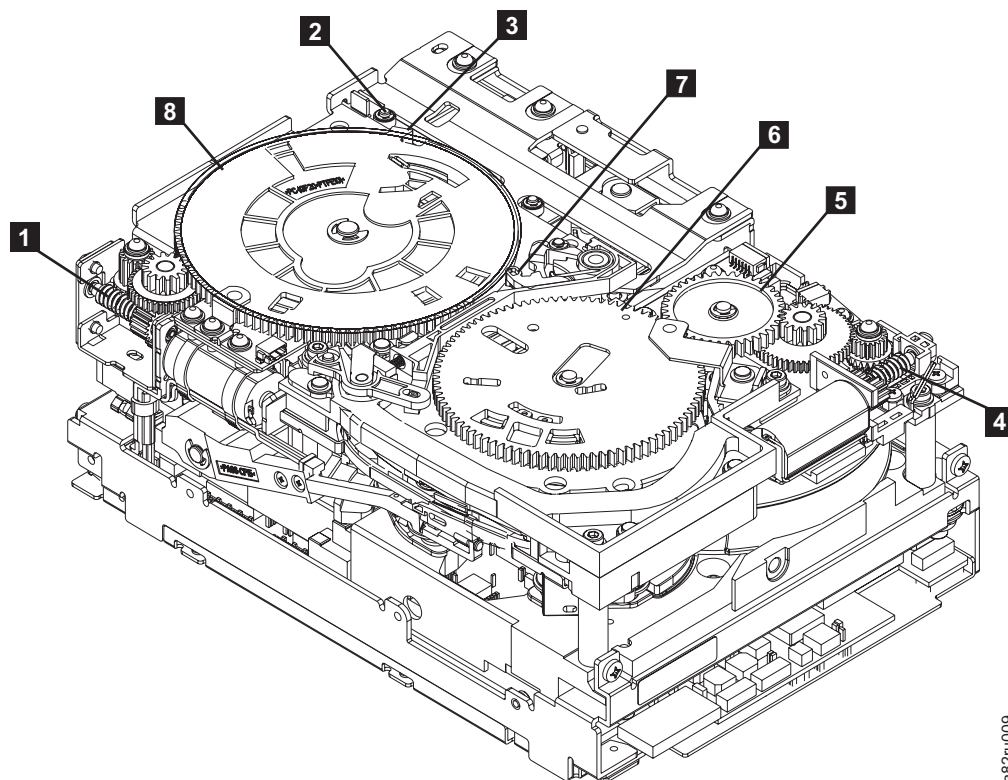
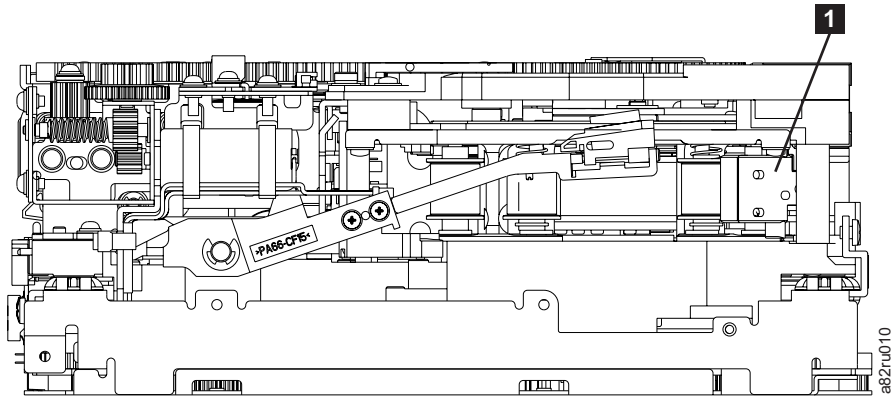

Figure F-12. Drive with cover removed to reveal gear train.
Figure F-13. Leader Block Assembly (LBA)
6. Locate the threader motor worm gear (**4** in Figure F-12 on page F-11) on the rear of the drive. Use your finger to rotate the threader motor worm gear and slowly rotate the threader mechanism gear (**6** in Figure F-12 on page F-11) clockwise. This rotates the threader motor worm gear (**4** in Figure F-12 on page F-11) clockwise, drawing the LBA into the cartridge.
7. As the tape leader block assembly (LBA) is secured in the cartridge, you should hear the LBA retention spring clips click into place. If you do not hear the click, continue rolling until the threader motor worm gear (**4** in Figure F-12) stops. The LBA is in the correct position.
- a. Loader mechanism gear (**6** in Figure F-12) nearest the front of the drive that actuates the cartridge loader mechanism.
- b. Position of the rotate stub (**3** in Figure F-12).
- c. Front loader motor worm gear (**1** in Figure F-12). Rotating this gear allows the loader mechanism gear (**8** in Figure F-12) to turn.
9. Rotate the loader motor worm gear (**1** in Figure F-12) to turn the threader mechanism gear (**6** in Figure F-12) counterclockwise. Continue turning until the rotator stub (**3** in Figure F-12) loses contact with the lever (**7** in Figure F-12). This releases the LBA leader pin.
10. Rotate the threader motor worm gear (**4** in Figure F-12 on page F-11) to turn the threader mechanism gear (**6** in Figure F-12 on page F-11) counterclockwise. This moves the LBA out of the cartridge and past the read/write head. Stop this rotation when the LBA is near the tape guide roller nearest the rear of the drive shown as **1** Figure F-13.
11. Continue rotating the loader motor worm gear (**1** in Figure F-12 on page F-11) until the rotator stub (**3** in Figure F-12 on page F-11) is positioned as shown. Notice that the rotator stub (**3** in Figure F-12 on page F-11) is nearly aligned with the cartridge loader tray guide bearing (**2** in Figure F-12 on page F-11).